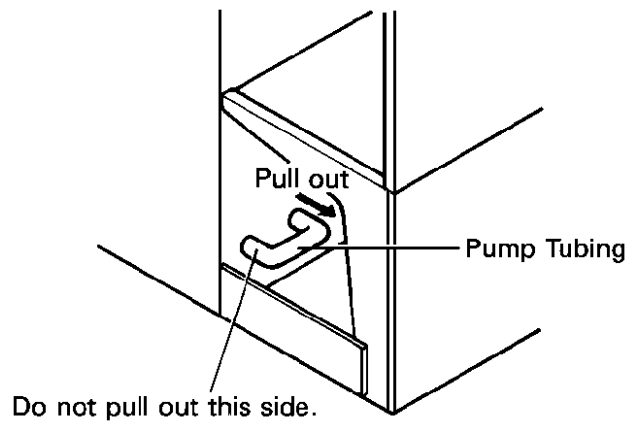

Fig. 5
- 7) Remove one end of the pump tubing to drain the water tank. See Fig. 5.
- 5) Remove one end of the pump tubing. Drain the water tank. Replace the pump tubing in its correct position. See Fig. 5.
- 4) Remove one end of the pump tubing. Drain the water tank. Replace the pump tubing in its correct position. See Fig. 5.